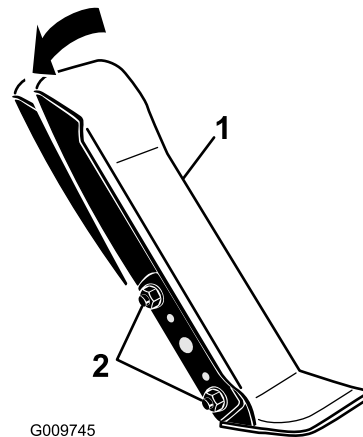

Figure 111
1. Loosen the 2 nuts and bolts securing the left side of the traction pedal to the bracket (Figure 111).
2. Pivot the pedal to the desired operating angle and tighten the nuts (Figure 111).